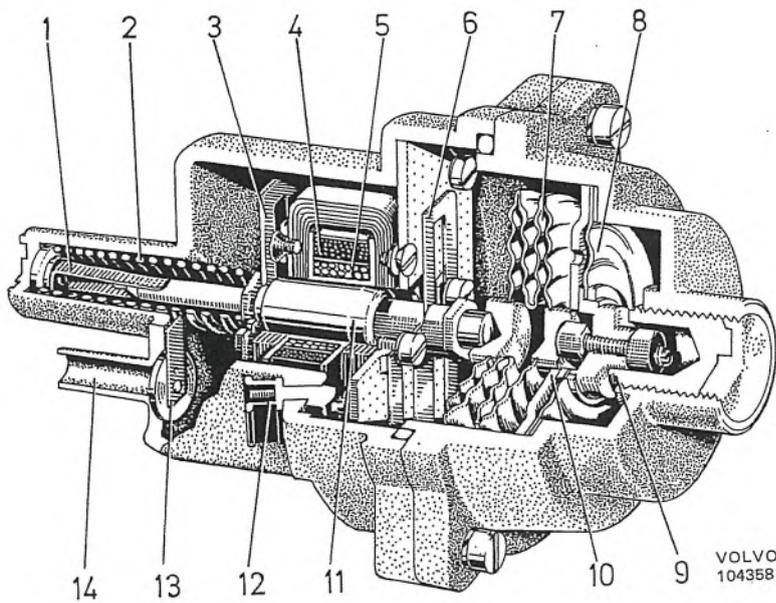

Fig. 2-76. Pressure sensor
The pressure sensor, Fig. 2-76, is built into a light-alloy housing.
When the engine is switched off, atmospheric pressure exists on both sides of the diaphragm (8, Fig. 2-76) and the movable armature (11), which is suspended friction-free in both leaf springs (3 and 6) is pressed against the full-load stop (9) by the spring (2). Moreover, both the deflated diaphragm bellows (7) are pressed together, since they are influenced by atmospheric pressure. This permits the armature (11) to move further to the right. In this position with the armature at extreme right, the pressure sensor informs the control unit that maximum possible fuel can now be injected.